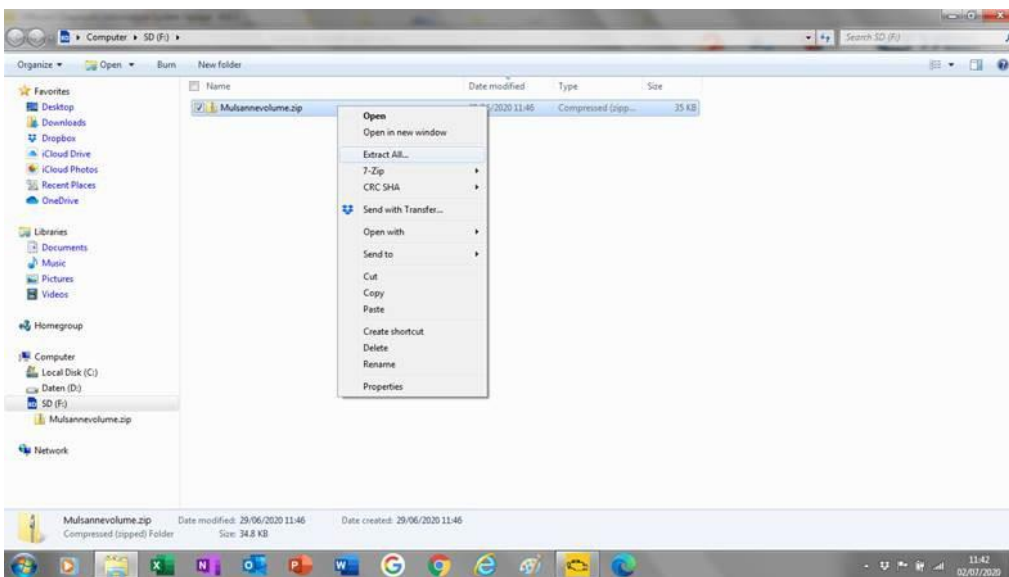

Figure 1
4. Referring to Figure 1 - Right click on the zip file and Select - Extract All - Select your SD card as the location for saving the files.